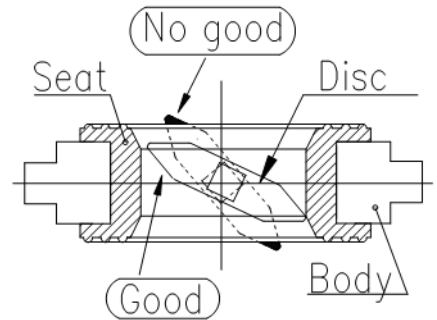

Fig. 1
- 1) The valve disc is set in the position indicated by the solid lines in Fig. 1 prior to shipment from the factory. If the valve is opened or closed after unpacking, it must be reset in this position before installation. Failure to do so may result in damage to the surface of the valve seat during handling and installation.